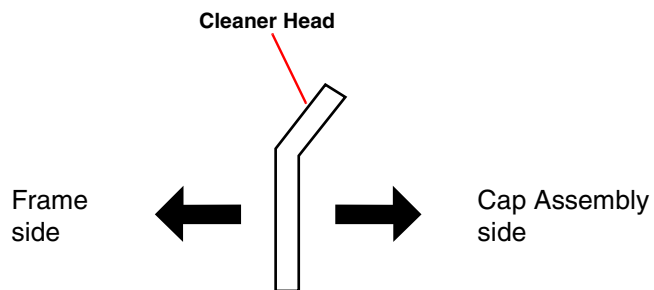

Figure 4-14. The Cleaner Head
- Set the Cleaner Head into place as shown in Figure 4-14.